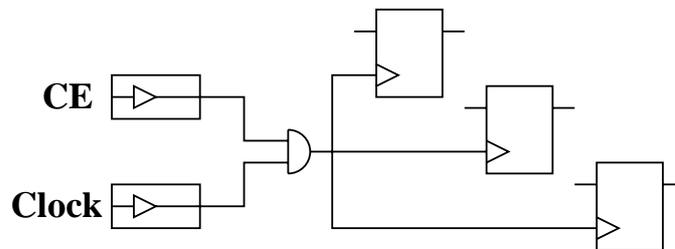

Figure 1.4: Clock Enable Configuration.
When there is need for a Clock Enable (CE) signal, as in figure 1.4, that has to be set in order to activate the clock it can be handled with the following command which must be **first in the constraints file**.